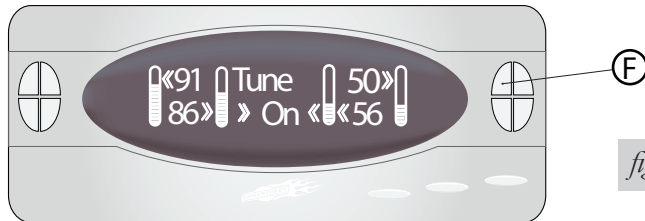

fig. 2
1. Press and hold the “B” button for three seconds until the menu is accessed (fig. 2).